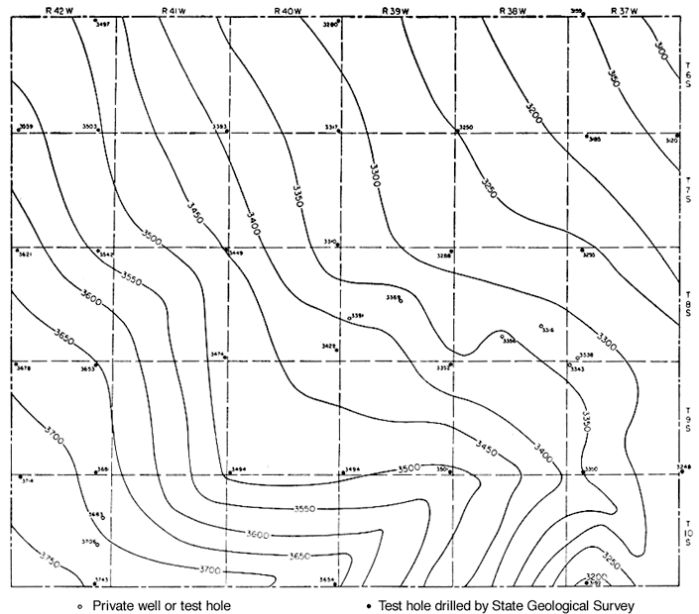

Figure 1.1:
- After labeling the peak, create rings of matching elevation height starting with the largest whole integer below the peak. For example, if the peak is at 865.43 Ft., then the first ring would be connecting where the elevation is at 865 Ft. Label the height within the ring. Continue to create continuous rings for every descending foot. Make the rings as accurate as possible. Figure 1.1 demonstrates an example. *Hint: There may be more than one hill on the site.* **15-20 Minutes**